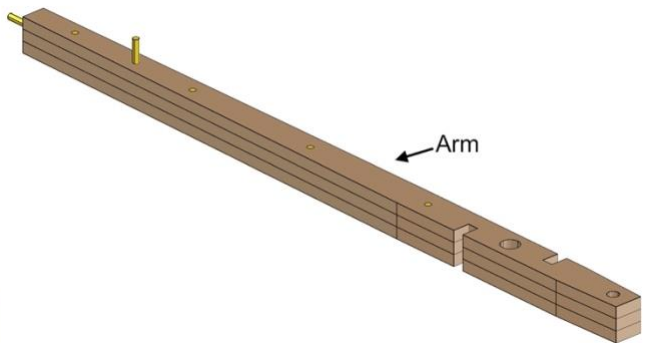

Fig. 64
- Fig. 64 shows the completed process.